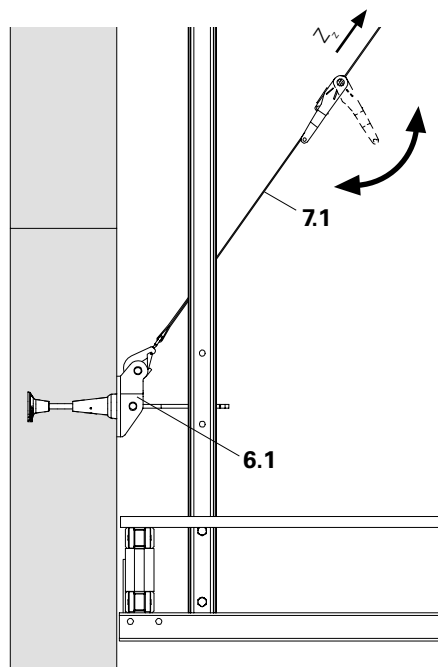

Fig. B1.35
6. Attach Tension Belt (7.1) below in the Bracing Shoe Wall CB M24 (6.1) and tighten. (Fig. B1.35)